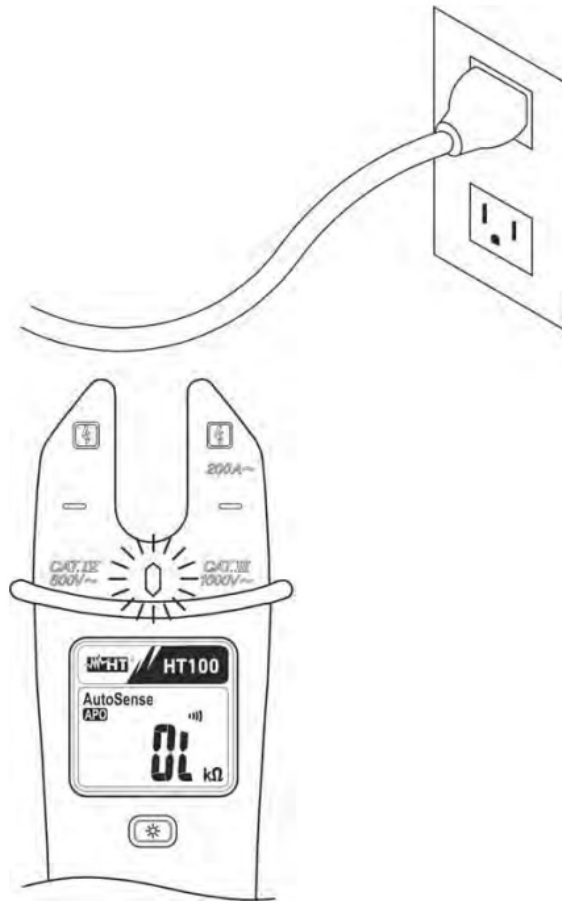

Fig. 4: Taking AC voltage detection check
2. Move the instrument close to point of the test (see Fig. 4)